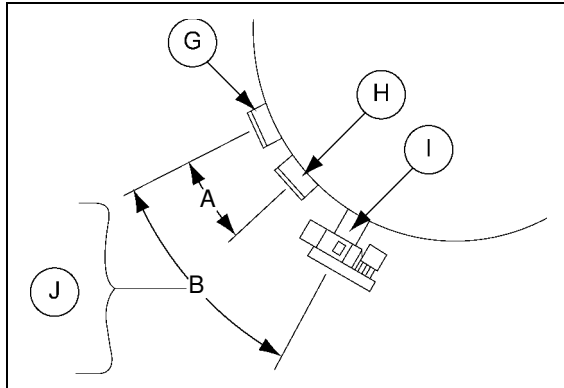

Figure 16D
5. Locate the Calc-U-Dri control box near the unit's main control box, discharge auger and sampler so that it is easily accessible and convenient height for you to observe and use. Mount the control box to the bin wall, using four (4) 5/16" x 1-1/2" bolts, lock washers and nuts. *(See Figure 16D.)*